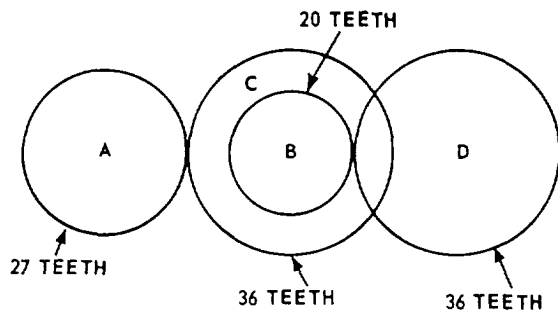

Figure 2C
- 2-29. Gears B and C in the gear arrangement shown in figure 2C are rigidly fixed together. If gear A is turned counterclockwise at a rate of 120 rpm, in what direction and at what rate will gear D turn?